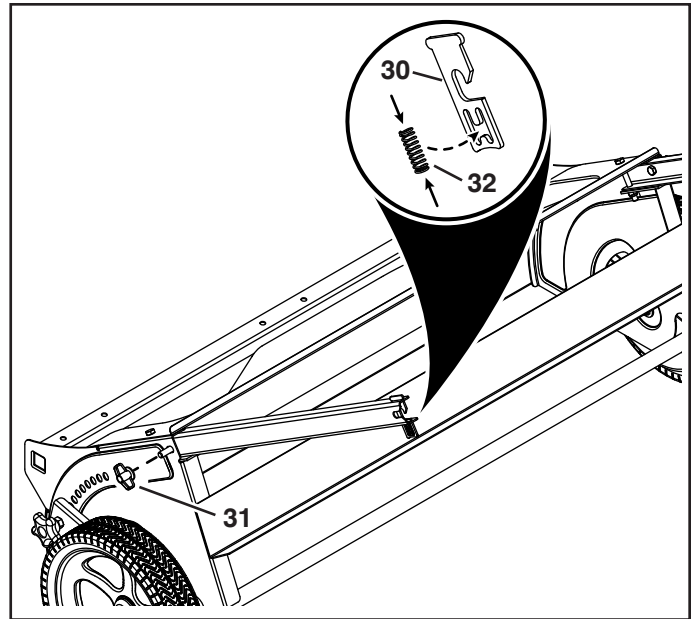

FIGURE 3
STEP 3: (SEE FIGURE 3)
- Secure each bag arm channel to the side of the sweeper housing with a plastic wing nut (31) installed onto the bolt assembled in step 1.
- Insert a pivot rod retainer (30) down into the end of each bag arm channel.
- Install a compression spring (32) into the bottom of each of the pivot rod retainers to secure them to the bag arm channels.